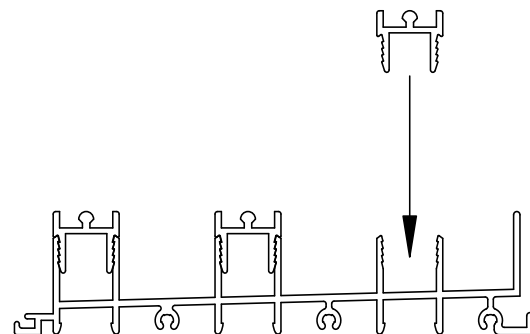

Figure 16
- 14) After installation screws are sealed, install the sill inserts. There is one insert for each track. (See Figure 16)